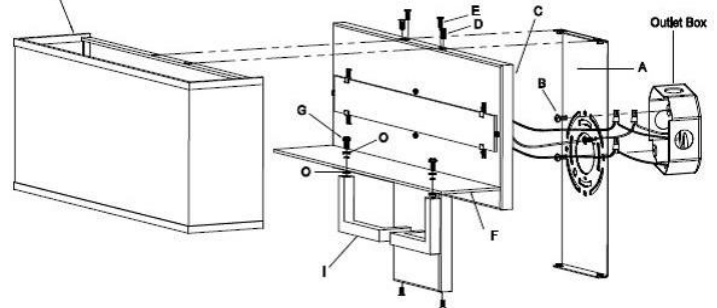

Fig.2
CONNECTING THE WIRES (FIG. 2)
4. At this point, connect the electrical wires as shown in Fig. 2, making sure that all wire connectors are secured. If your outlet has a ground wire (green or bare copper), connect the fixture's ground wire to it. Otherwise, connect the fixture ground wire directly to the mounting back plate (A) using the green screw provided. After wires are connected, tuck them carefully inside the junction box.
5. Align fixture back plate (C) onto mounting back plate (A) and secure with screws (D).